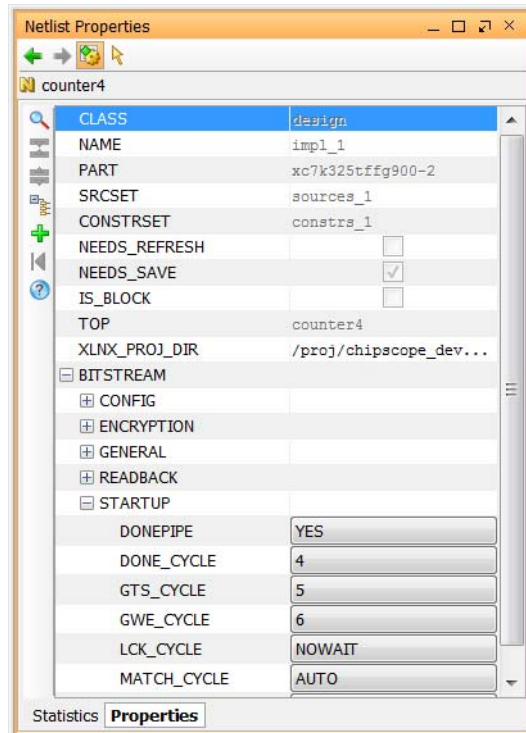

Figure 2-3: Netlist Bitstream Properties
4. In the **Properties** window, locate the **BITSTREAM** properties and set them to the desired values (see Figure 2-3).
5. In the **Properties** window, locate the **BITSTREAM** properties and set them to the desired values (see Figure 2-3).